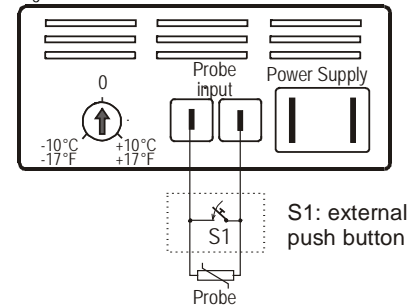

Fig.2
6. EXTERNAL PUSH-BUTTON CONNECTION (FIG.2)
- Connect the push button in parallel with the probe as shown in Fig.2.